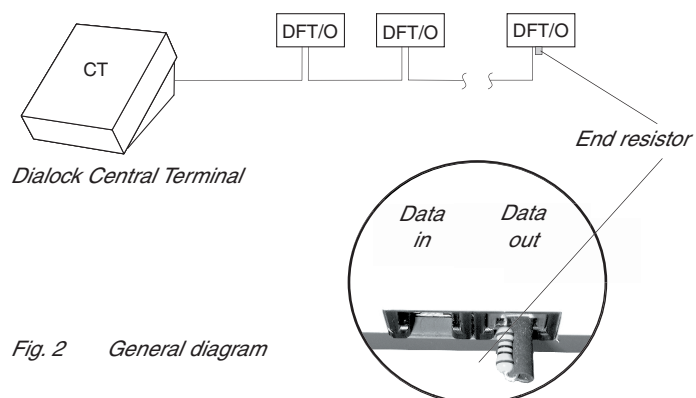
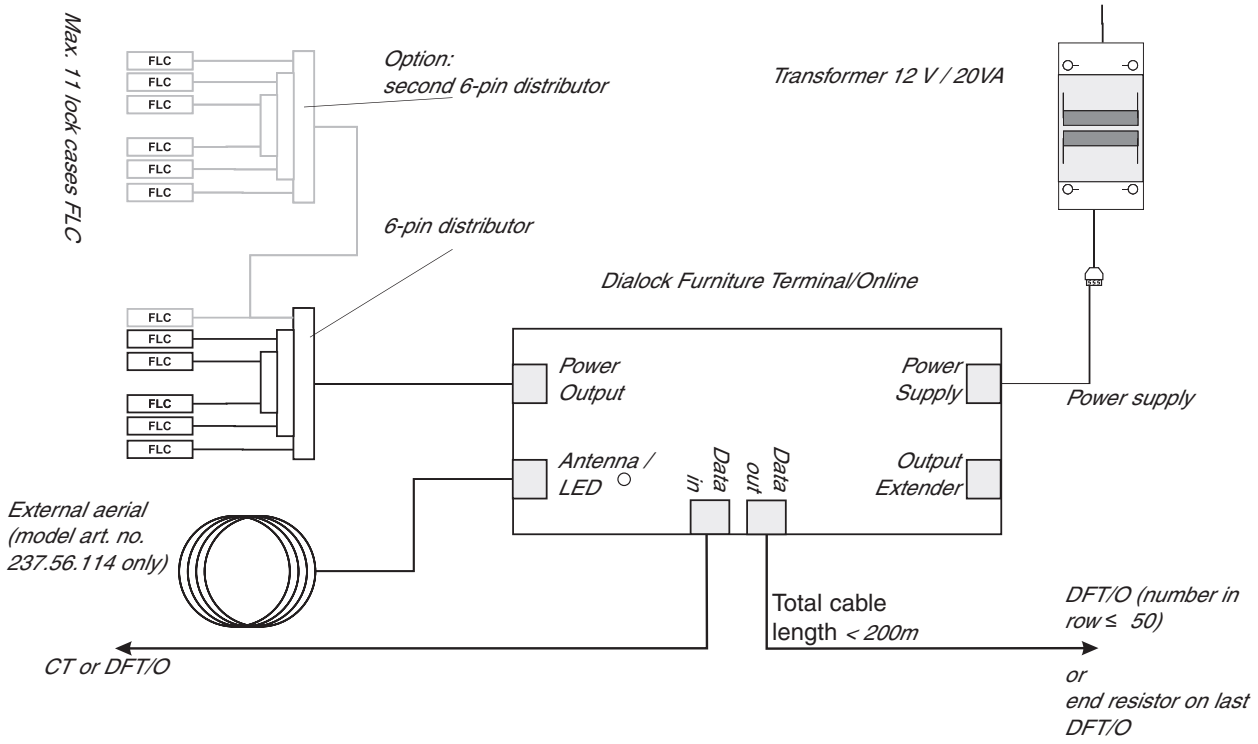

Fig. 2 General diagram
Fig. 3 Dialock furniture-locking system, type with external aerial
1. Position and fix the Diallock Furniture Terminal/Online and system components according to terminal-connection plan (Fig. 3).
4. Connect plugs of connecting cables to Diallock Furniture Terminal/Online according to connection plan (Fig. 3).
5. Plug the end resistor into the last Diallock Furniture Terminal/Online in the series (see general diagram Fig. 2).
3. Connect the optional second 6-pin distributor as shown in Fig. 3, page 24.
Connect the cables of the individual system components as shown in Fig. 2 (page 23) and Fig. 3 (page 24).